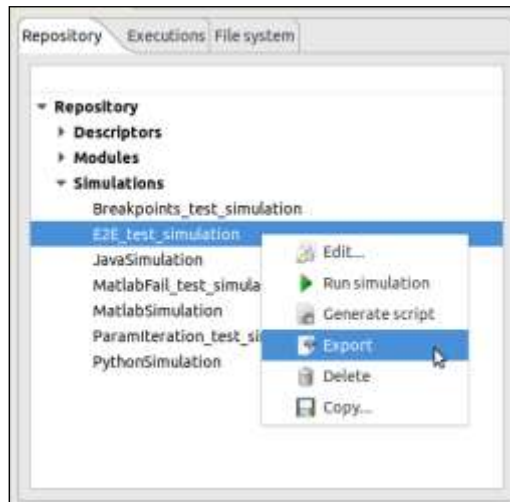

Figure 4-117: Export from the repository menu
1. From the **Repository** menu. In this case, we need to navigate from the “Repository” menu down to the simulation that the user wishes to export. Next, right-clicking over it; the “Export” option appears for selection. This is illustrated in Figure 4-117 below.